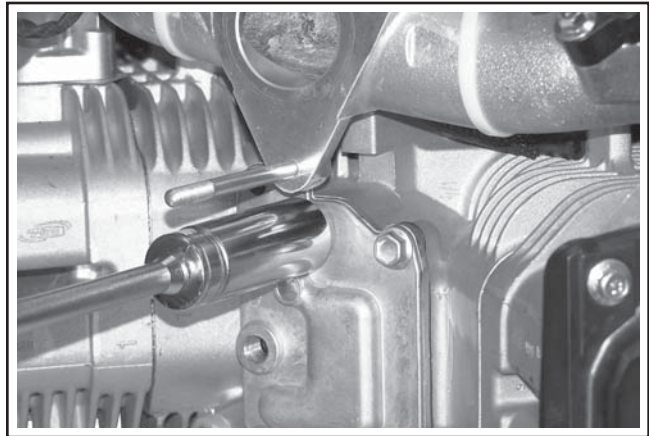

Figure 8-34. Remove the Oil Temperature Sensor.
3. Disconnect and remove the oil temperature sensor. See Figure 8-34.